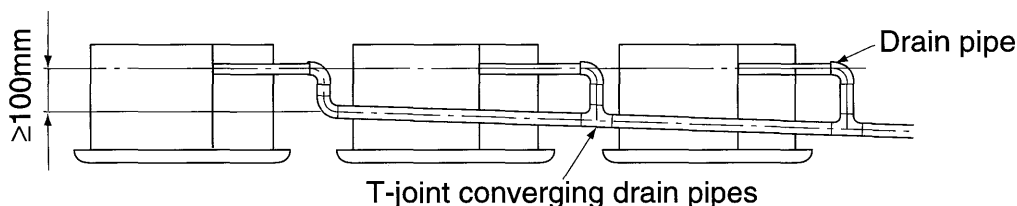

Fig. 16
- If converging multiple drain pipes, install according to the Fig. 16.